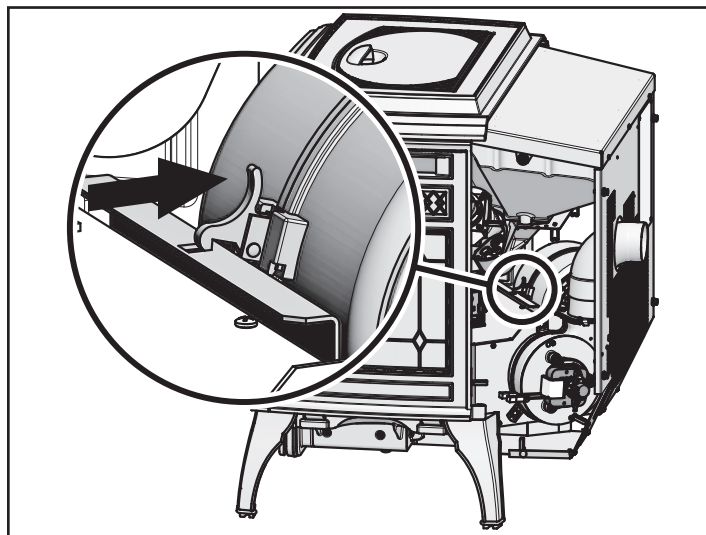

Figure 22.2
4. Reach behind the blower and release the latch by pushing the top of the latch towards the blower. **Figure 22.2**
8. When the blower is properly positioned the latch will engage the notch to hold the blower in place. **Figure 22.2**